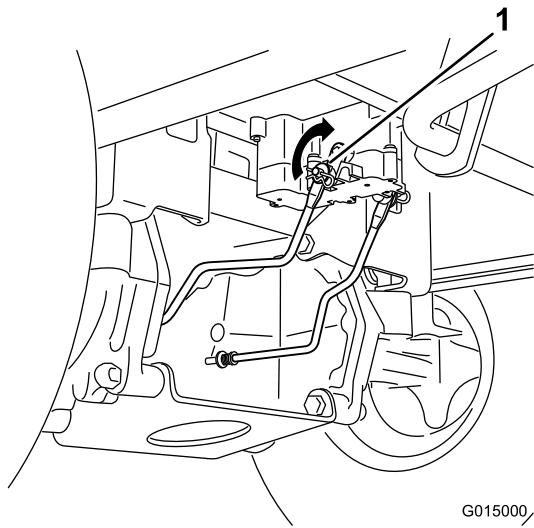

Figure 51
1. Locate the shaft on the electric brake where the brake-link arms are connected (Figure 51).